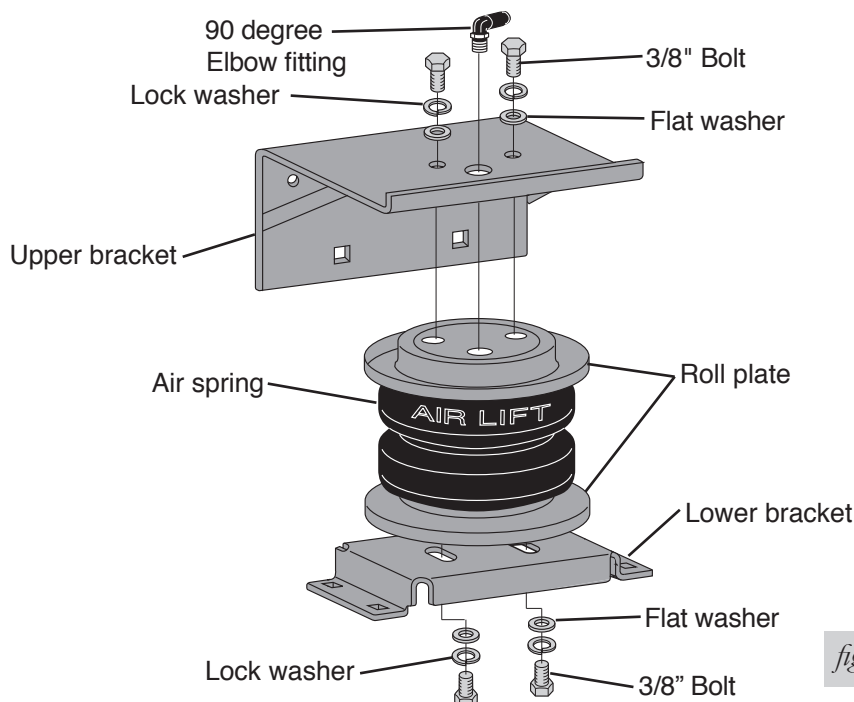

fig. 2
1. Set a roll plate (D) on both ends of the air spring (A). The radiused (rounded) edge of the roll plate will be towards the air spring, so that the air spring is seated in both roll plates (fig. 2).
2. Install 90 degree elbow fitting (E) to the top of the air spring. Tighten finger-tight plus 1 and 1/2 turns. Be careful to only tighten on the metal hex nut. Do not over tighten.
3. Set the upper bracket (B) over the top of the air spring. Attach the upper bracket using two 3/8" bolts (F), two lock washers (G), and two flat washers (H). Tighten securely (fig. 2).
4. Set the lower bracket (C) on to the bottom of the air spring (fig. 2).
5. Attach using two 3/8" bolts (F), two lock washers (G), and two flat washers (H). Leave loose at this time for later adjustment (fig. 2).